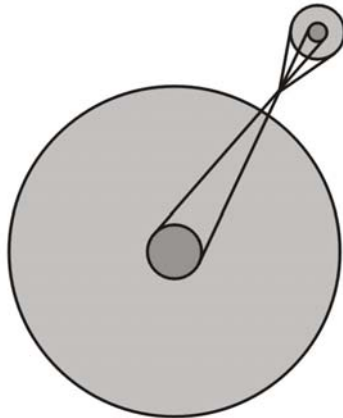
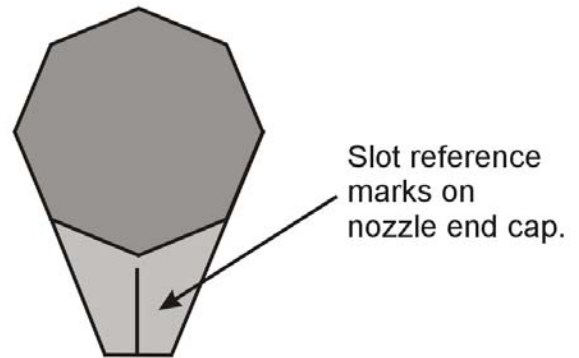

Figure 5
Figure 6
19. Use nylon string wrapped around the Chill Jet nozzle end shaft and around the Chill Roll journal in a “figure 8” pattern (Figure 5) at the nozzle end cap. It should align with the reference marks on the end cap. (Figure 6) Adjust the air cylinder stop bolt to align the string with the reference marks if necessary.